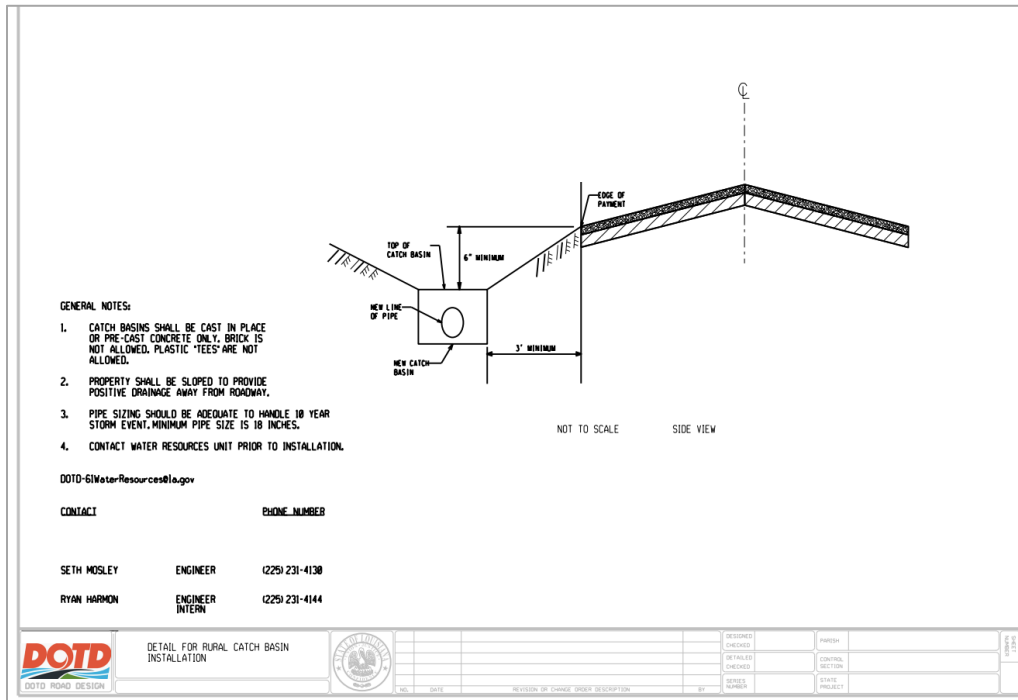

Figure 1.5b: Detail for Rural Catch Basin Installation (District-Specific Example) (See Section 1.6.6 for Plan Sheet Details)
- *(As needed)* Rural Catch Basin Installation Detail. District-specific example (Figure 1.5b).